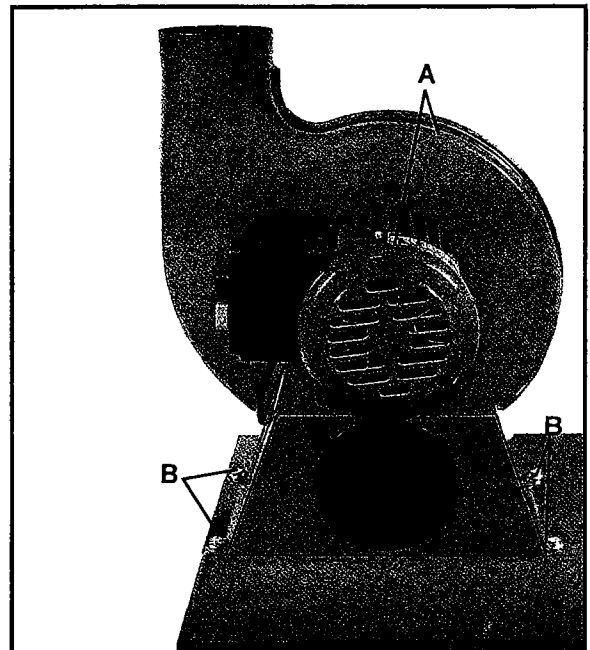

Fig. 2
2. Place the base with casters on the ground. Attach the motor and fan assembly (A, Fig. 2) to the base using four M8 x 16 hex cap bolts and four M8 flat washers (B, Fig. 2).